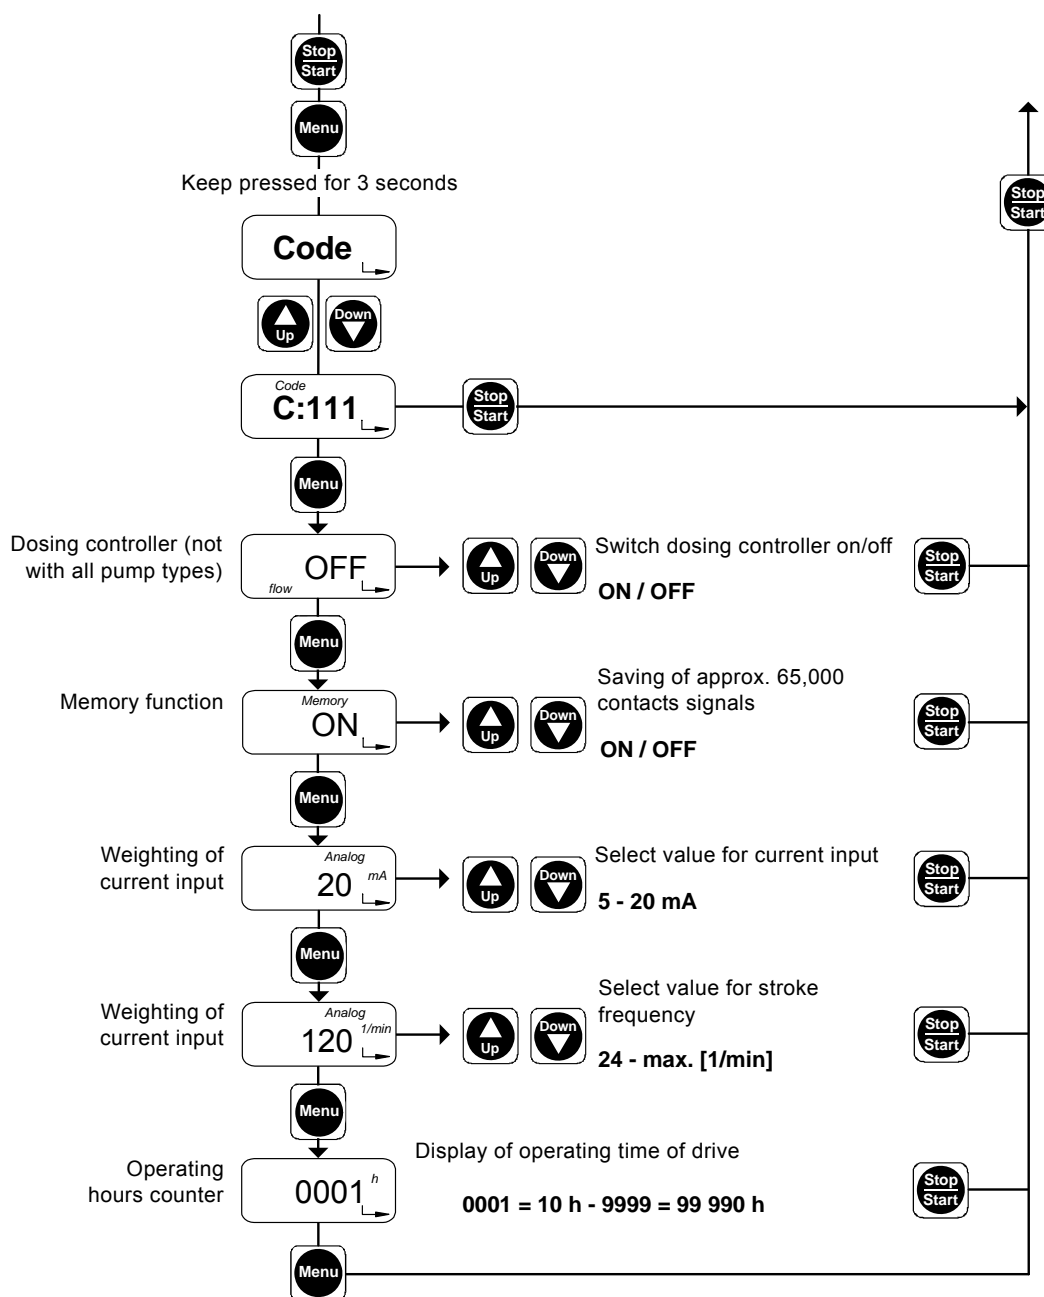

Fig. 27 Second function level
2. Use the "Up" and "Down" buttons to modify the settings in the relevant menu as shown in fig. 27.